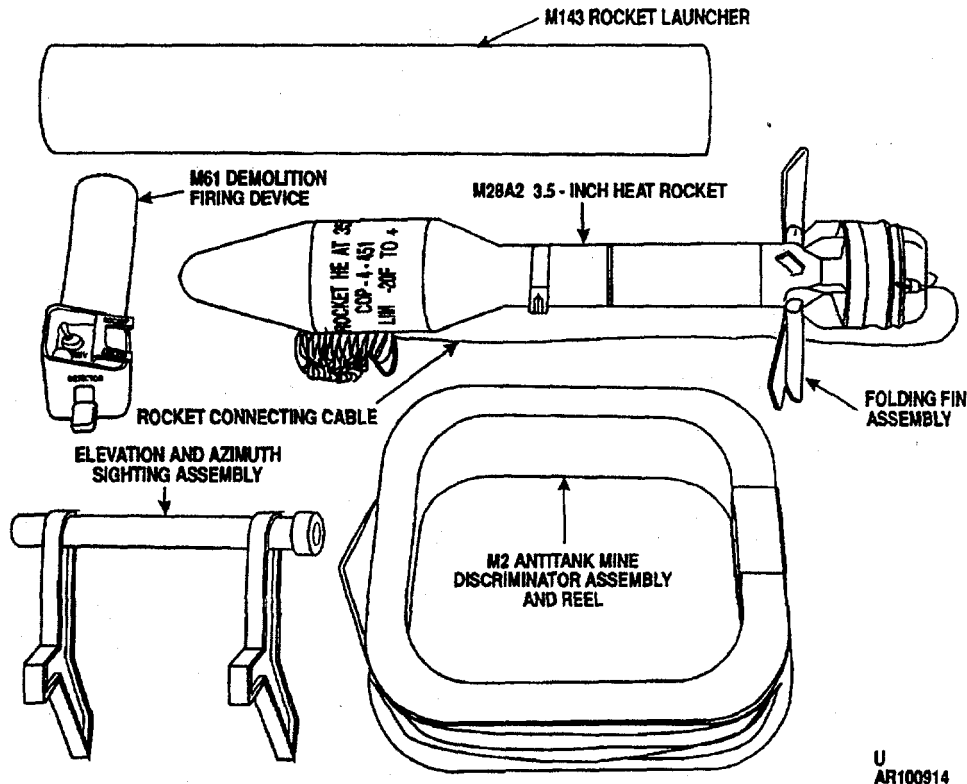
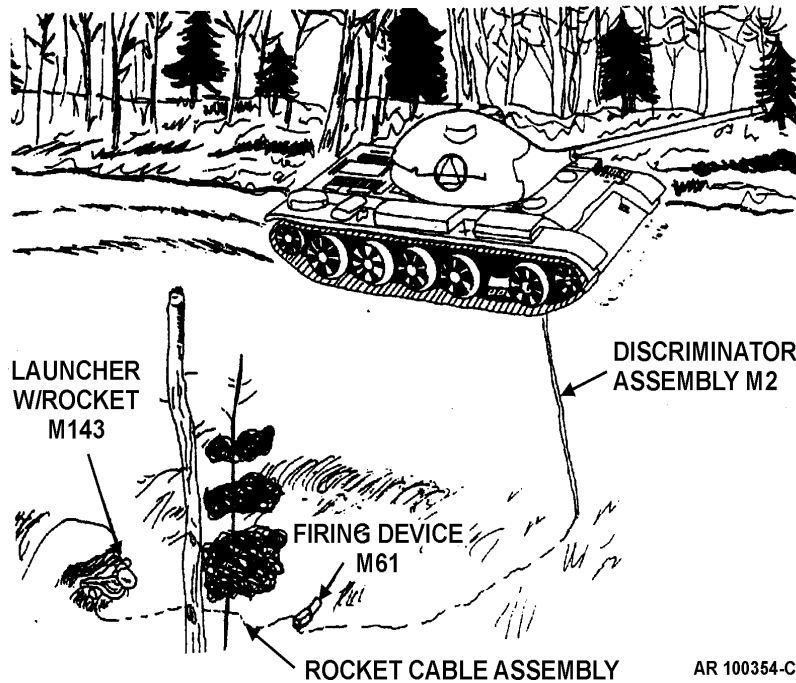

Figure 1-14. Basic components, mine, AT: HE, M24.
Figure 1-15. Emplaced mine, antitank: HE, M24.
(1) Mine (fig. 1-14) is an off-route, anti-tank mine, consisting of a 3.5-inch rocket (modified by adding folding fins), launcher, discriminator firing device, and associated wiring and equipment. Rocket enclosed in a launcher is triggered by the M2 discriminator placed across the target route (fig. 1-15).
(2) A vehicle crossing the discriminator at two segments completes circuitry to the firing device. The firing device, a transistor-controlled firing unit, sends